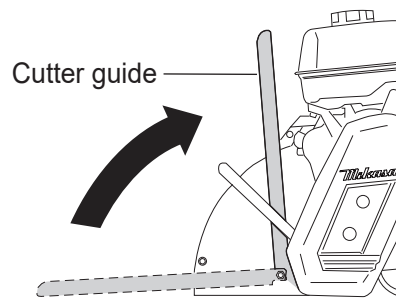

Fig.29
4. Stow the cutter guide. (Fig.29)